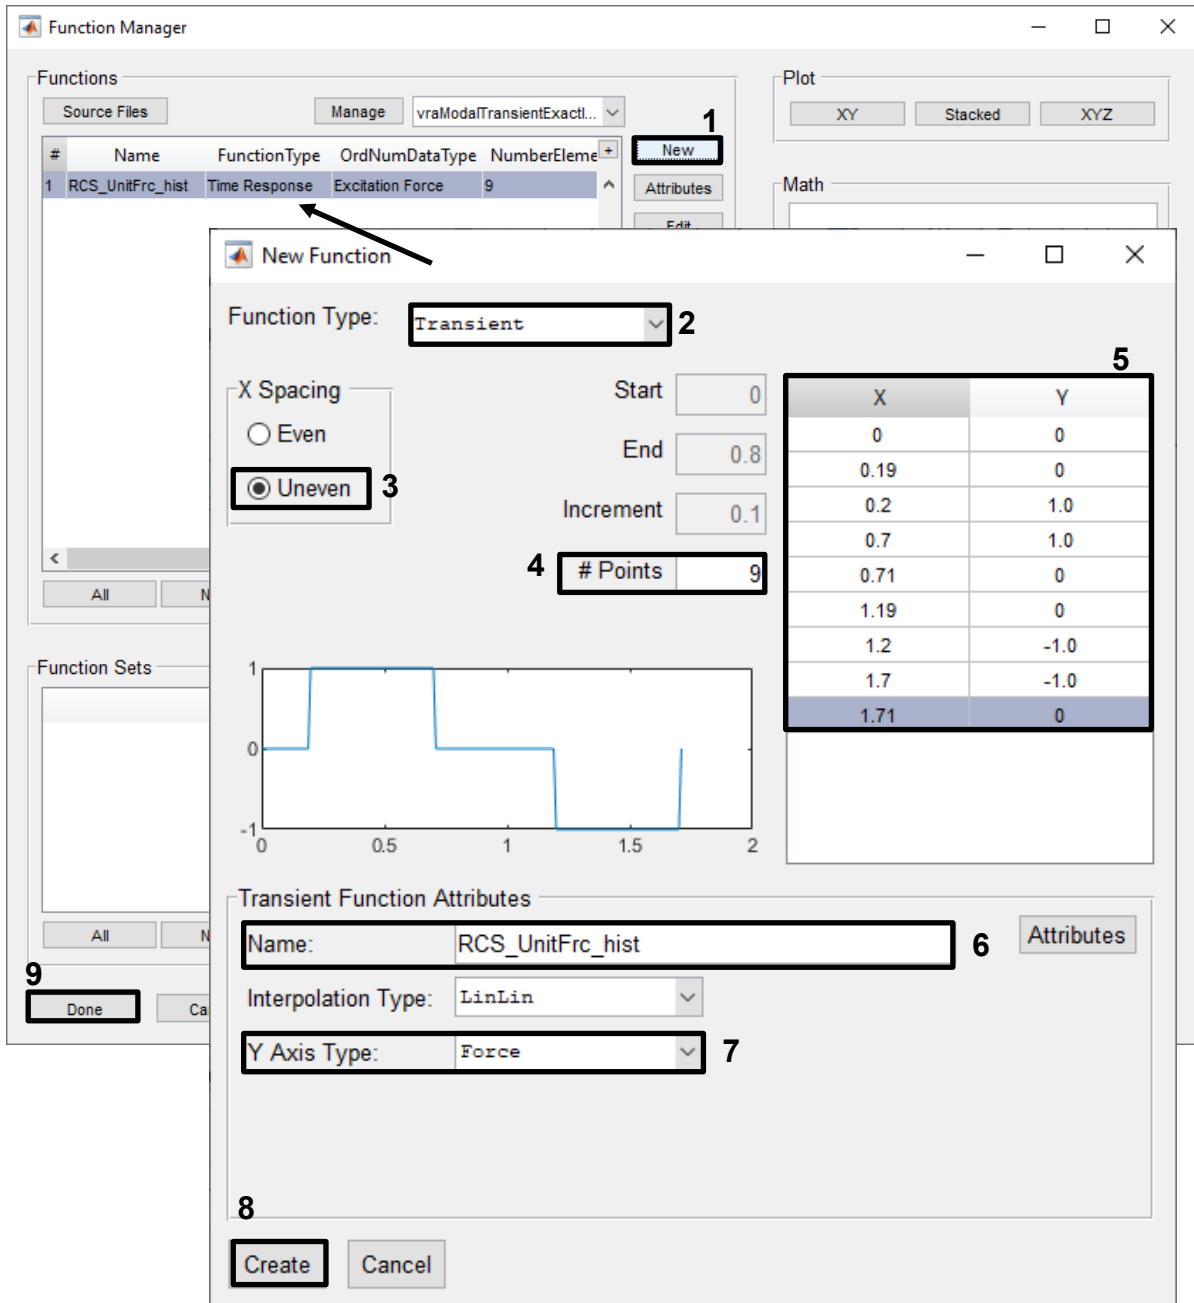
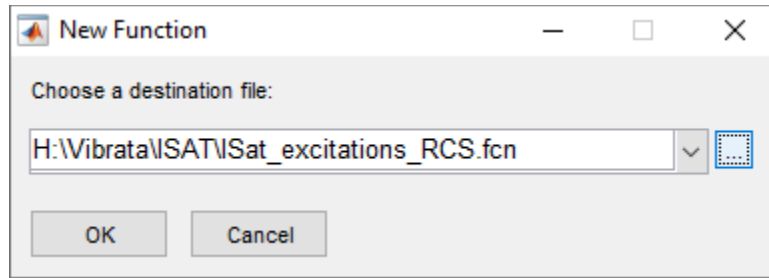

Figure 4-95. Thruster force transient for Isat maneuver.
Figure 4-96. Save the Isat thruster forcing function to a file.
5. In the Function Manager, you will create a time function to excite the Isat transient event. If you have already run the random examples in section 4.3.1, open the "Isat_excitations.fcn" file used there; if that file does not currently exist, you will create it when you have finished defining the function for the current example. As shown in Figure 4-95, create a new transient function, set its Y-axis to *Force*, give it uneven X-spacing, set the number of points to 9, and assign it the X and Y values shown. The pulses have unit amplitude; this will let us size the RCS thrusters just by scaling the excitations. Remember to give the function a recognizable name. Click **Create** to store the function to an *fcn* file (Figure 4-96). Click **Done** on the Function Manager to return this function to the Point Force dialog. Assign it a scale factor of